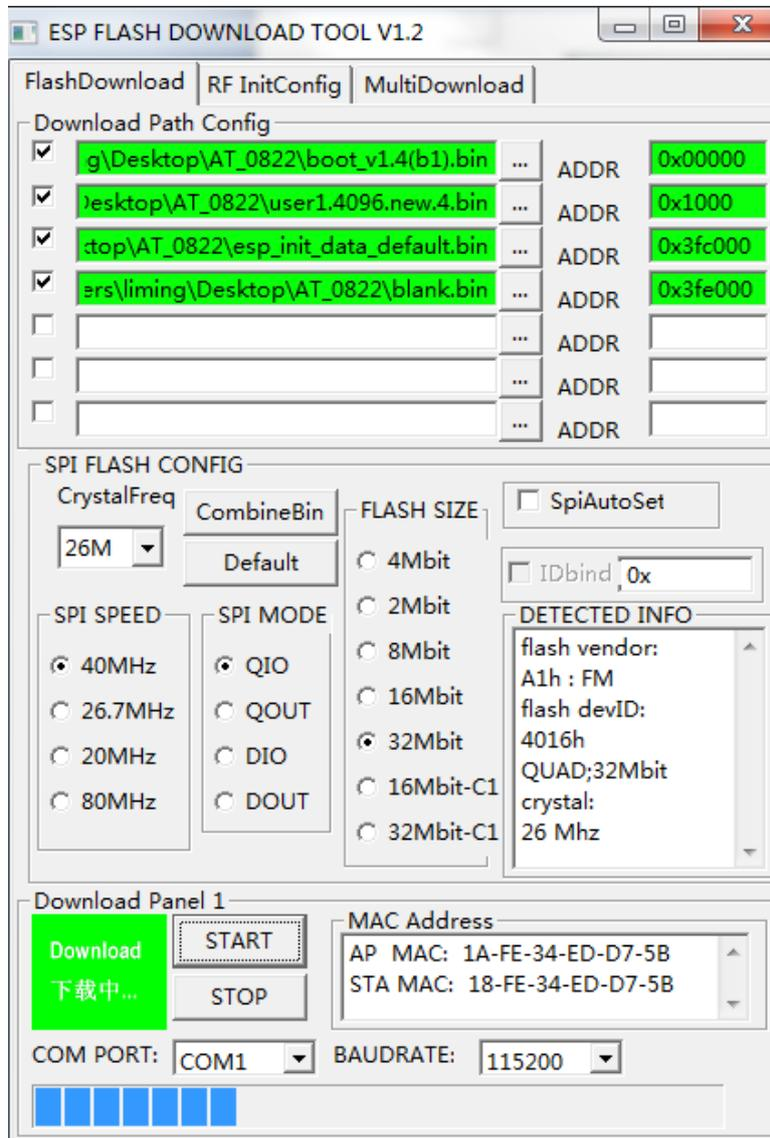

Figure 3-6 Program Downloading
4、Import the files need to be programmed in program software "Download Path Config" and set SPI SPEED, SPI MODE, FLASH SIZE and BAUDTATE parameters, click "START" button, splats change from "Waiting" to "downloading", which means program download started, please refer to figure 3-6: